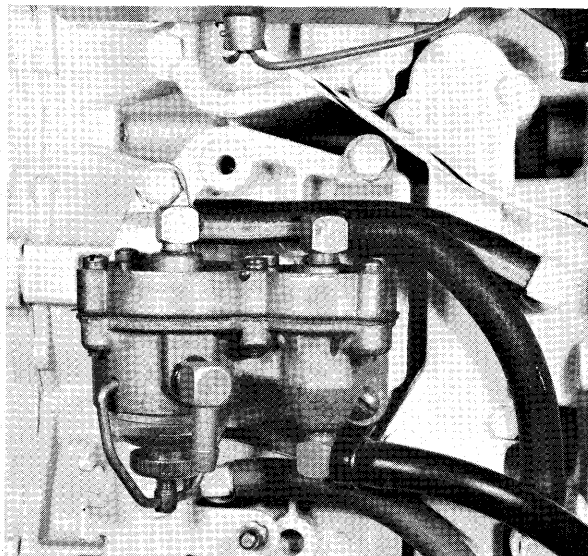

Figure 6 - Fuel Pump
- A. Remove inlet fuel line from inlet fitting. See figure 6.
- A. Apply Loctite H (Special Tool T2962) to threads of two (2) fittings and install on fuel pump cover. See figure 6 for positioning of bars.
- C. Install fuel pump cover and secure with six (6) screws.
- E. Install pump assembly on powerhead and secure with three (3) screws.
- C. Install fuel pump body assembly to bracket and secure with three (3) screws.
- D. Apply Loctite H (Special Tool T2962) to threads of inlet fuel fitting and install fitting on body. See figure 6.
- E. Apply Loctite H (Special Tool T2962) to threads of fitting (fuel pump to carburetor) and install fitting on body. See figure 6.